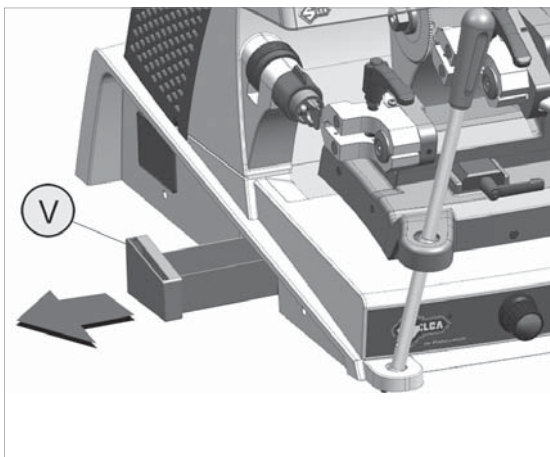

Fig.61
- 1) Remove the swarf tray (V) (Fig.61).
- 6) Loosen the 2 screws (X1) and remove the bottom cover (X).
- 7) Place the machine upright on the worktop and insert the swarf tray (V) (Fig.61).